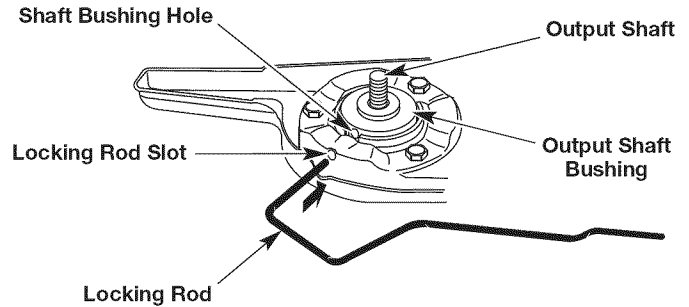

Fig. 13
1. Align the shaft bushing hole with the locking rod slot (Fig. 13). Insert the locking rod into the locking rod slot and shaft bushing hole (Fig. 13).
2. Align the shaft bushing hole with the locking rod slot (Fig. 13). Insert the locking rod into the locking rod slot and shaft bushing hole (Fig. 13).